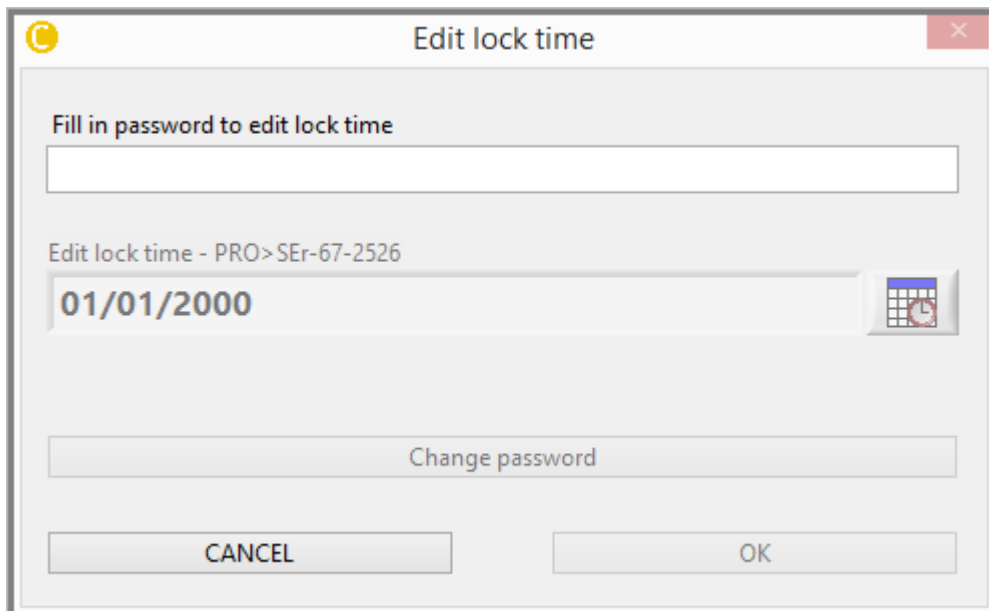

Figure 4-42 : HW setup TAB - Lock
2. Lock older measurements : By pushing this button a window, pop up as shown in Figure 4-42 called Edit lock allowing you to set a key (password). With this setup you can secure previous measurements in the monitor flash.